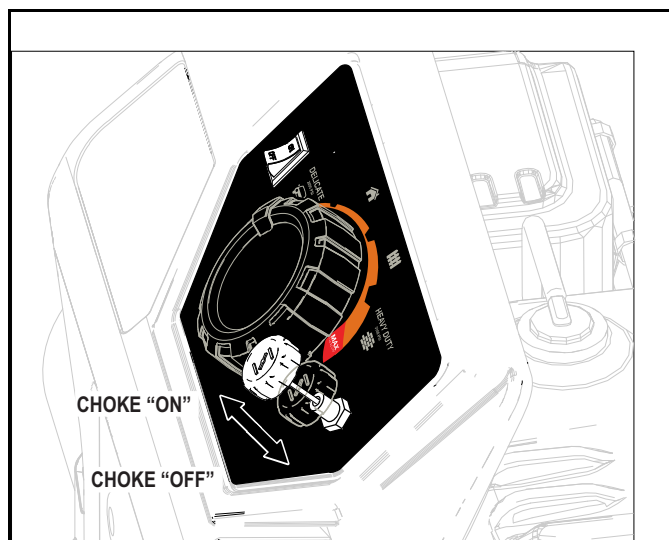

Figure 5-4. Choke Knob
3. Choke the engine by slowly pulling out on the choke knob until it stops in the "ON" position (Figure 5-4).
For a warm engine, push the choke knob down until it stops in the "OFF" position (Figure 5-4).